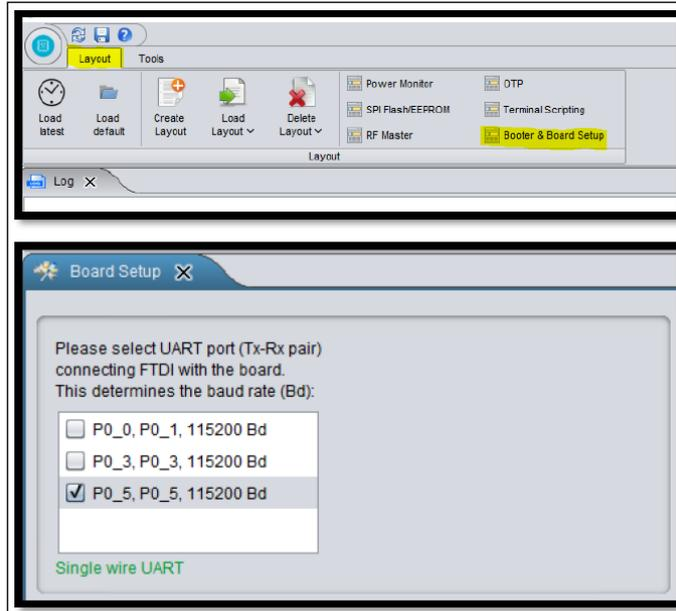

Figure 16: Verify Board Setup
- Go to **Layout > Booter & Board Setup** and verify that the board setup is similar to Figure 16.